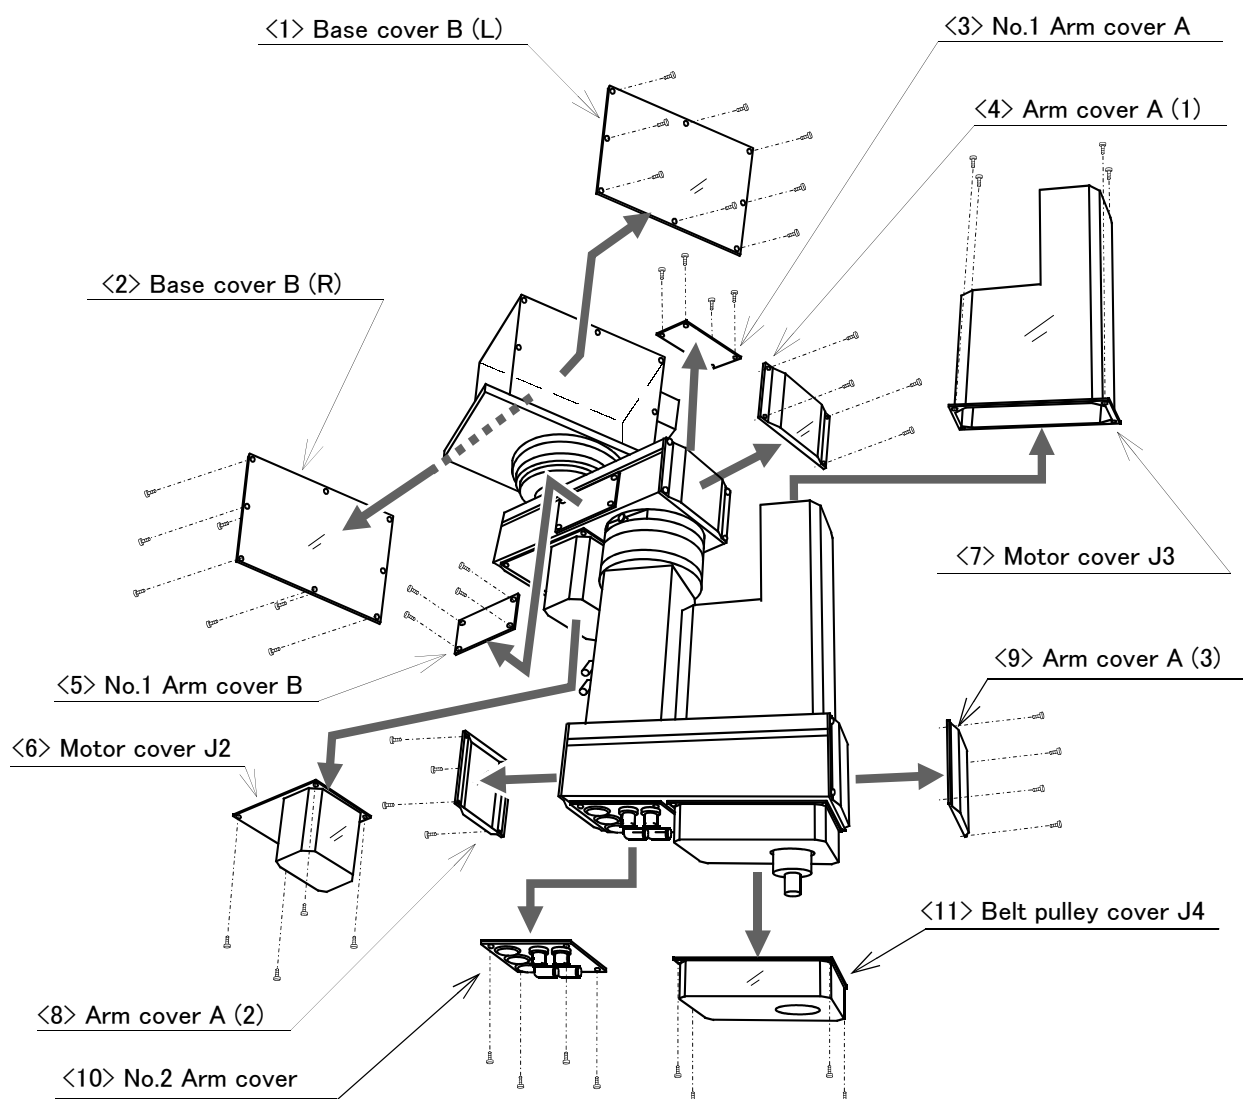

Fig.5-3 : Installing/removing the cover
When you remove the cover, don't remove other than the screw shown in Fig. 5-3 and Table 5-3.
- (1) Referring to Fig. 5-3, remove the covers.
- (2) The names of the covers are given in Table 5-3, and a list of the cover installation screws is given in Table 5-3.
- (3) When installing the cover after maintenance and inspection, use the procedure of removal in reverse.